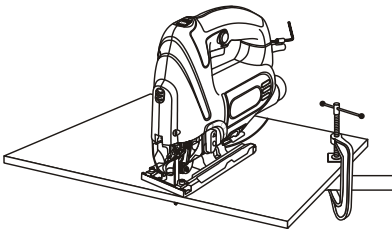

Fig. 14
3. Rest the front of the jigsaw base on the workpiece and align cutting edge of the blade with the cutting line on your workpiece (Fig. 14). Make sure the power cord is out of your way and not in the path the blade will follow.